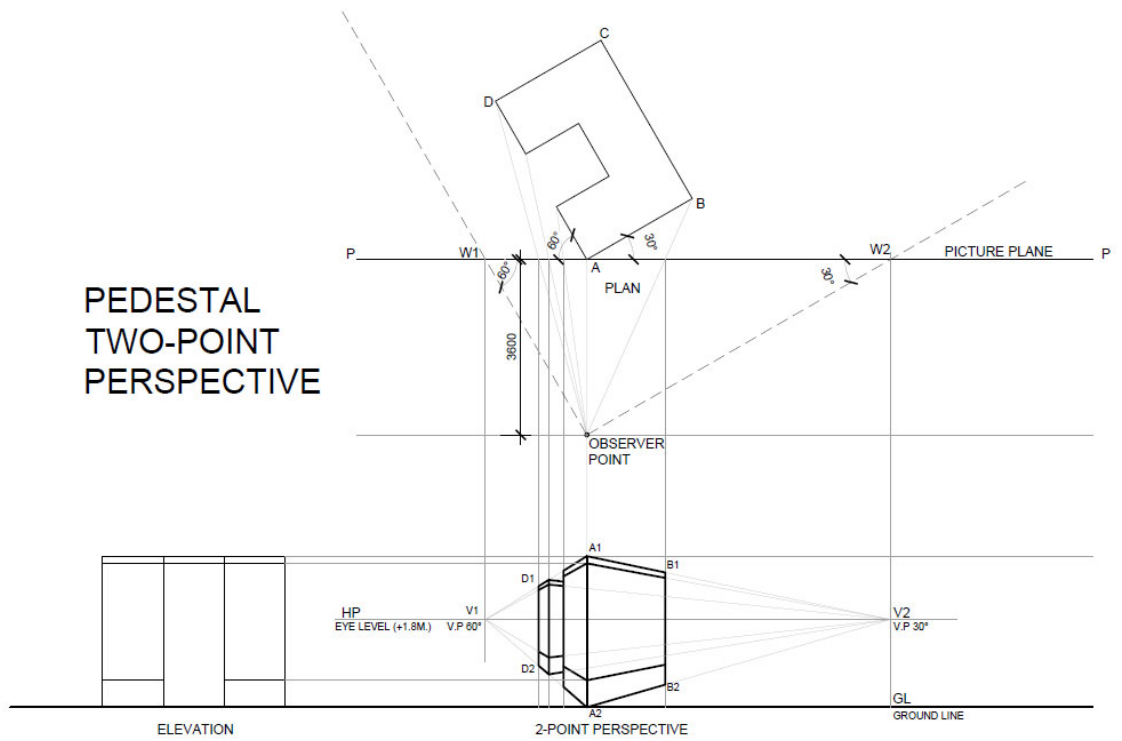

Fig 5.13 Pedestal in Two Point Perspective
1. Assume a line indicating Picture Plane (PP). Object is kept on the ground hence its plan is drawn on line PP. Object is making an angle of 30 degree and 60 degrees with the picture plane.
4. Draw one horizontal line (HL) above ground level at a height equal to observer's eye level i.e 1.8m.
6. From S join all the points of object up to PP and then project them vertically downward up to ground level (GL).
7. Point A touches the PP hence true height and perspective height of this point will be same. Transfer true height of the object of this line and converge them to vanishing points V1 and V2. These converging lines cut vertical projections of B and D at B1 B2 and D1 D2 (upper and lower points of object). Hence sides A1 D1 A2 D2 and A1 B1 and A2 B2 are drawn **Fig 5.13**.